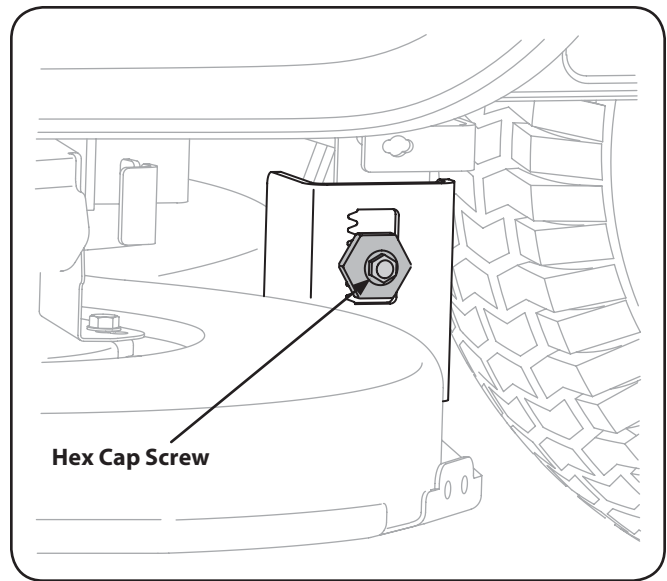

Figure 6-4
3. Loosen, but do NOT remove, the hex cap screw on the left deck hanger bracket. See Fig. 6-4.